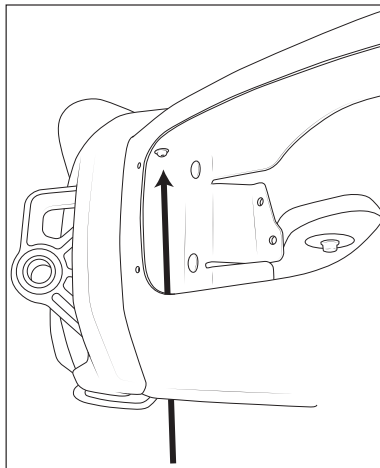

Figure 22
3. Install the M10 x 25 button head bolts and washers to tube hand tight (fig. 22).